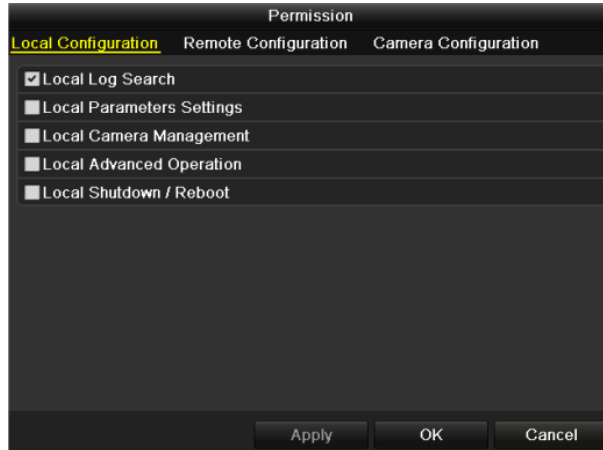

Figure 14-7 User Permission Settings Interface
Step 5 Select the user from the list and then click the button to enter the Permission settings interface, as shown in Figure 14-7.